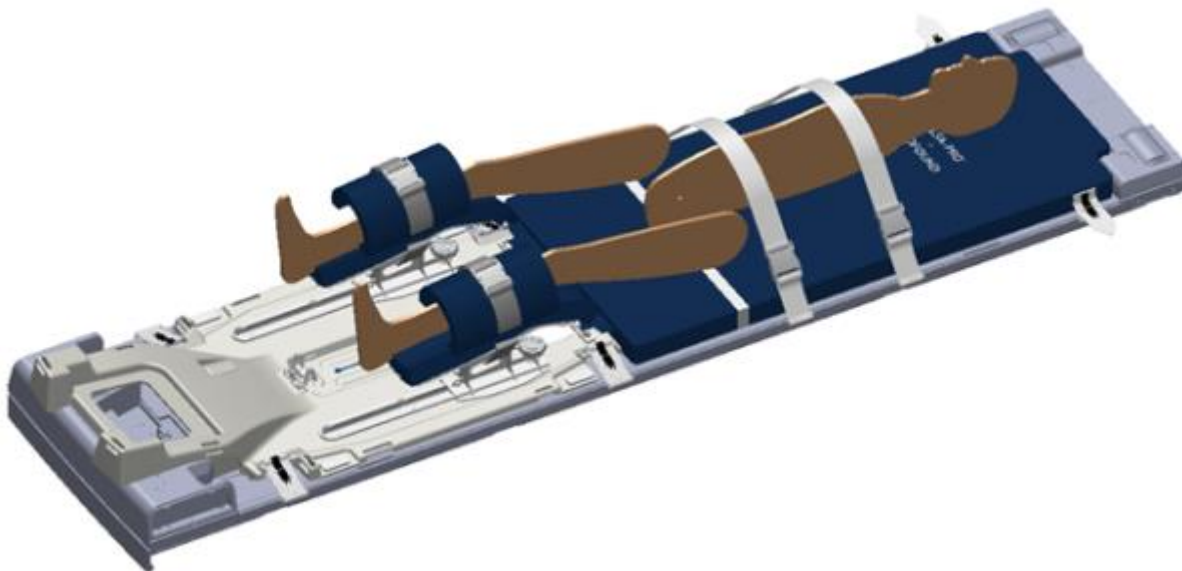

Figure 25: Securing the abdomen and arm straps
2. **MRI Technologist:** Fasten one abdomen-arm strap tightly over the lower abdomen to minimize anterior-posterior breathing motion. Wrap the sheet over the abdomen and place the patient's hands on top. Fasten a second abdomen-arm strap over the arms to help fit the patient into the MRI bore (*Figure 25*, your configuration might not match exactly as shown).